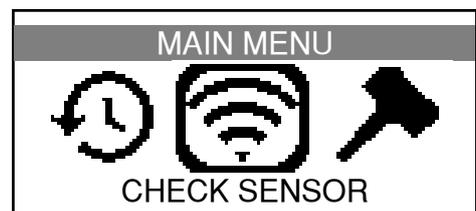

Fig. 3
- The **MAIN MENU** will then be displayed (Fig. 3).